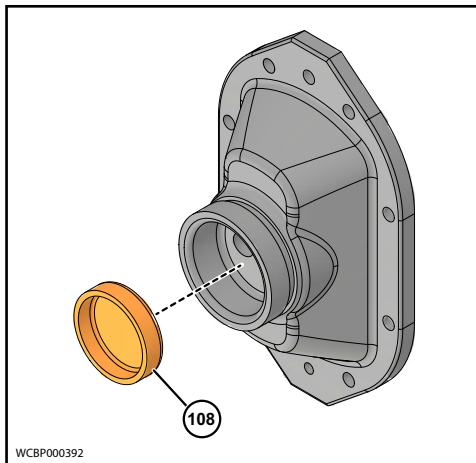

Figure 97 - Remove Rubber Diaphragm
3. Remove the Rubber Diaphragm (108) from the Cover Port, as shown in Figure 97.